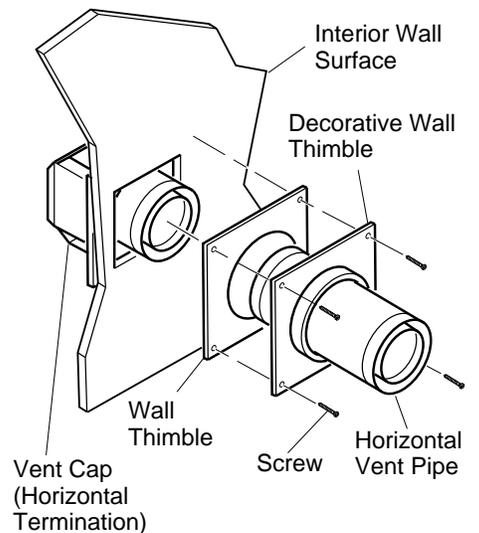

Figure 30 - Connecting Vent Cap with Horizontal Vent Pipe
- Slide the wall thimble over the vent pipe before connecting the horizontal run to the vent cap (see Figure 30).
- Slide the wall thimble against the interior wall surface and attach with screws provided (see Figure 30).